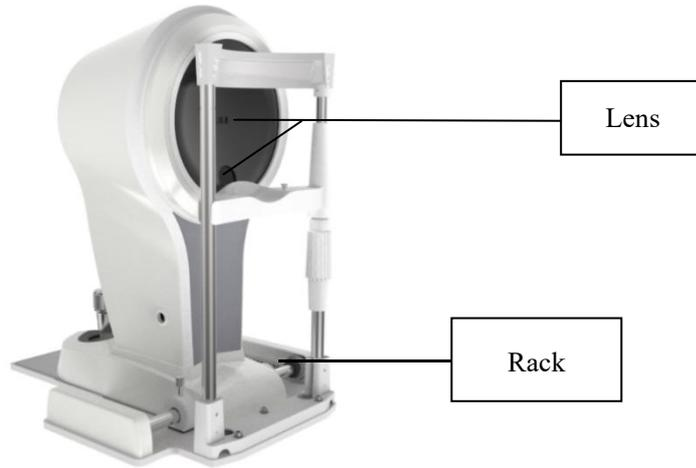

Figure 8.1.1
1. Clean the lens: If dust adheres to the lens, gently wipe it off with soft cotton dampened with absolute alcohol (see Figure 8.1.1).Note: Do not wipe with fingers or other hard objects.
2. Cleaning the pads, rails, and shafts: If the pads, rails, and shafts are not clean, the horizontal and vertical movements will not be smooth. Wipe clean with a clean soft cloth (see Figure 8.1.1).